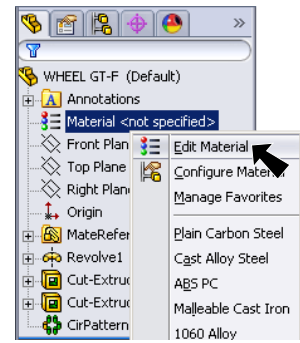

Fig. 22
Step 1. Right click Material  in the Feature Manager and click Edit Material, Fig. 22.